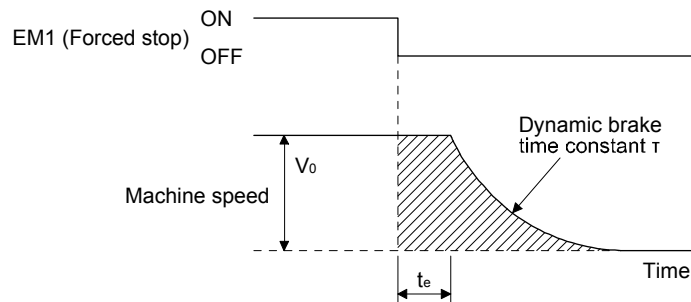

Fig. 4.3 Dynamic brake operation diagram
Fig. 4.3 shows the pattern in which the servo motor comes to a stop when the dynamic brake is operated. Use equation 4.2 to calculate an approximate coasting distance to a stop. The dynamic brake time constant τ varies with the servo motor and machine operation speeds. (Refer to (1) (b) of this section.)